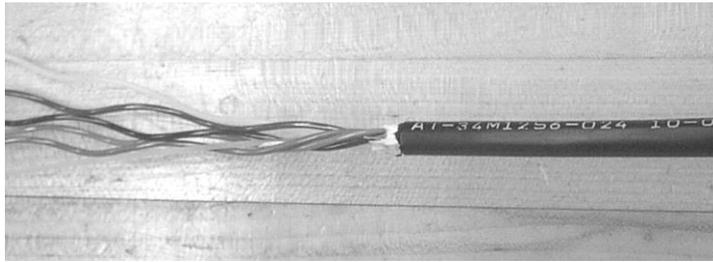

Figure 10 - Unwrap the buffer tubes.
4.11 Carefully unwrap the buffer tubes from each other and remove any water blocking threads between the tubes and the central member (Figure 10).